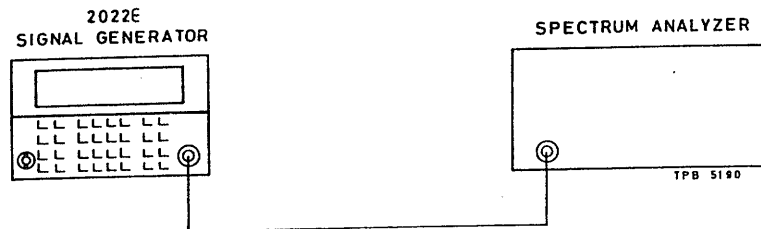

Fig. 5-12 Test gear arrangement to check carrier harmonics and sub-harmonics
(1) Connect the test equipment as shown in Fig. 5-12 and set the 2022E controls as follows :